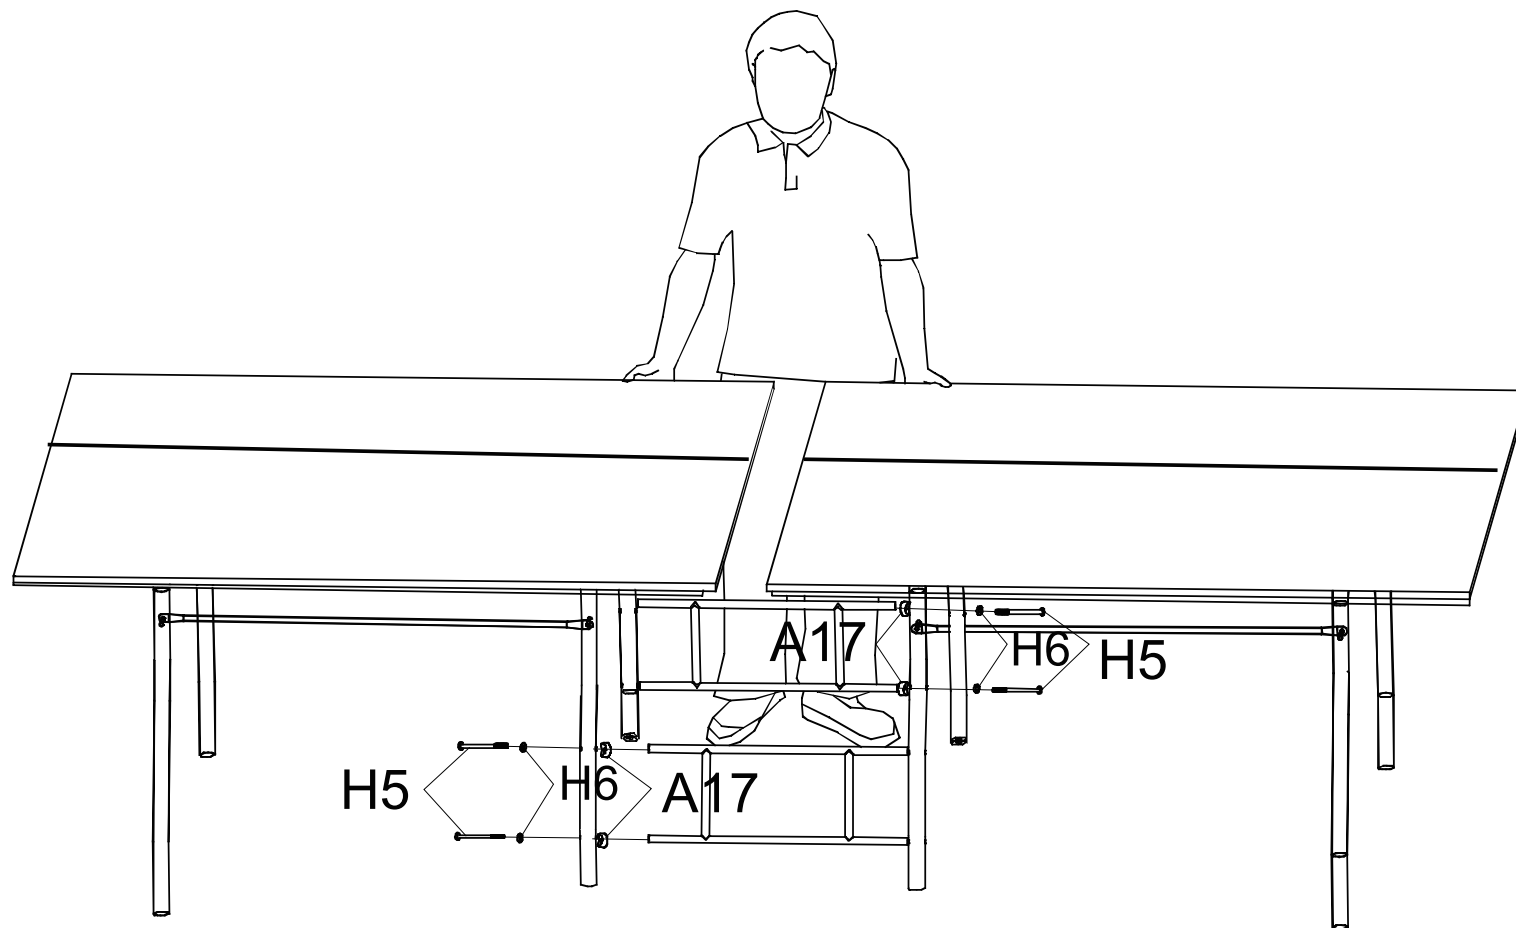

FIGURE 13
STEP13: Have an adult hold the two table tops in stable position. Attach the two table tops together, using bolts H5, washers H6 and plastic washers A17 as shown in FIGURE 13.